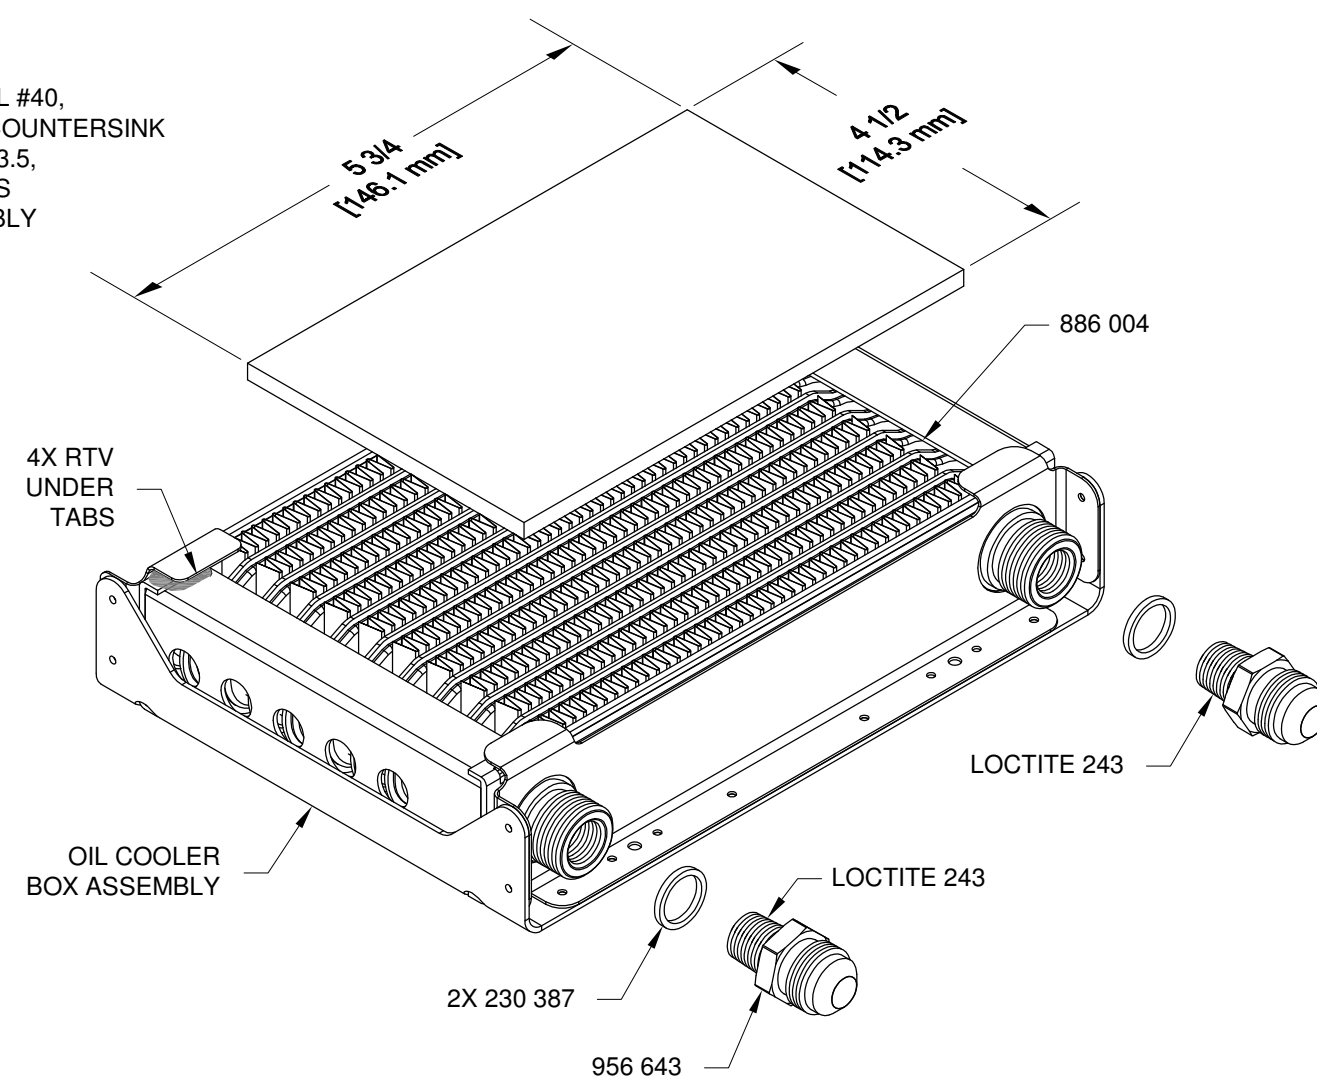

FIGURE 2: OIL COOLER BOX FINAL ASSEMBLY
Step 14: Apply RTV underneath the Oil Cooler Box Assembly tabs as shown in Figure 2.
Step 15: Install the 956 643 Hose Nipples and 230 387 Gasket Rings into the oil cooler as shown in Figure 2. Use Loctite 243 on the lower threads of the hose nipples.
Step 2: Align the oil cooler opening in the COWL 12 COOLING DUCT with the opening/fin area on the Oil Cooler Box Assembly, then clamp the two together at the bottom flange of the Oil Cooler Box Assembly. See Figure 2.